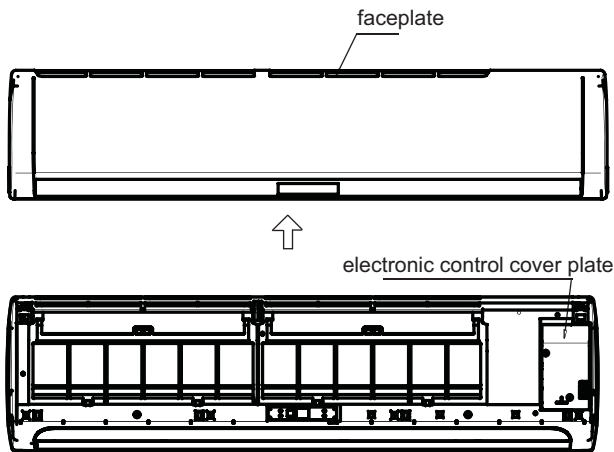

Fig.7-2
- 2 Individual connect the power cord and signal line,adjust the dial switch.(see Fig.7-2)